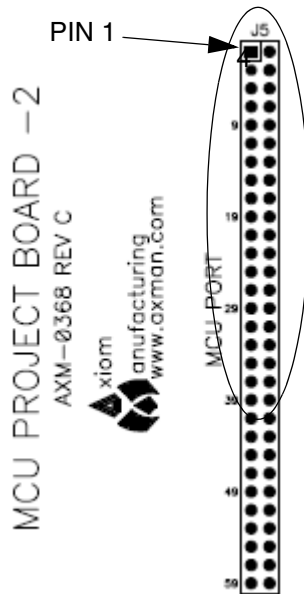

Figure 2. Installation of MC9S12C32 MCU Application Module
- Install the MC9S12C32 MCU application module in the MCU PORT connector (J5) on the project board. Align pin 1 on the application module with pin 1 of the MCU PORT connector on the project board as marked by Figure 2.